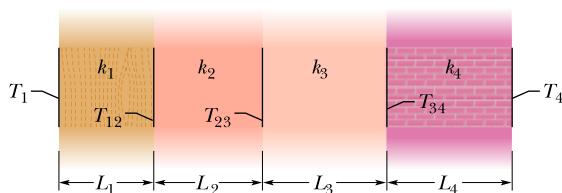

Figure 18.26 Problem 63.
**63 M GO** Figure 18.26 shows (in cross section) a wall consisting of four layers, with thermal conductivities  $k_1 = 0.060\text{ W/m}\cdot\text{K}$ ,  $k_3 = 0.040\text{ W/m}\cdot\text{K}$ , and  $k_4 = 0.12\text{ W/m}\cdot\text{K}$  ( $k_2$  is not known). The layer thicknesses are  $L_1 = 1.5\text{ cm}$ ,  $L_3 = 2.8\text{ cm}$ , and  $L_4 = 3.5\text{ cm}$  ( $L_2$  is not known). The known temperatures are  $T_1 = 30^{\circ}\text{C}$ ,  $T_{12} = 25^{\circ}\text{C}$ , and  $T_4 = -10^{\circ}\text{C}$ . Energy transfer through the wall is steady. What is interface temperature  $T_{34}$ ?